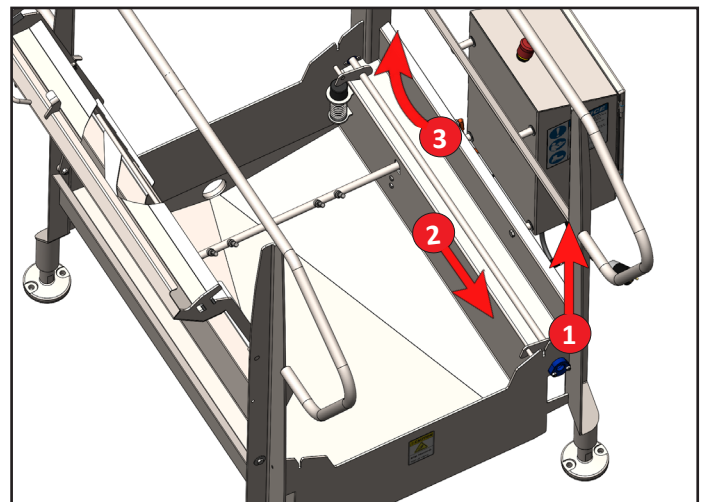

Fig. 9.2: Balancer Weldment removal procedure
4. Lift the free end up while sliding the Spring Balancer out the keyhole to remove from the tub. [Figure 9.2 - Arrow 3]